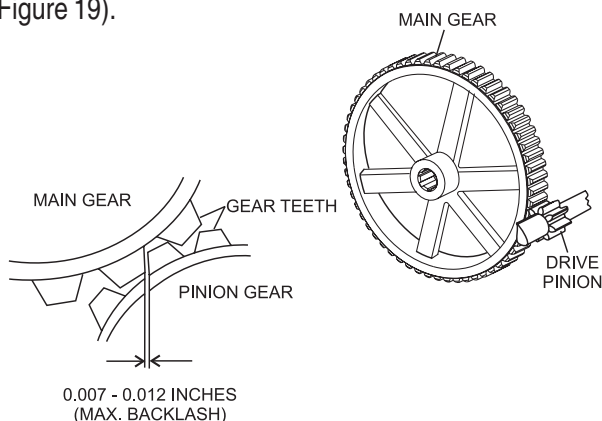

Figure 19. Drive Pinion and Main Gear (Backlash)
3. Using your hand, slightly move (rock) the drive pulley back and forth to determine the amount of backlash. Insert feeler gauge between gears to determine backlash distance. Backlash should range between 0.007- 0.012 inches (Figure 19).